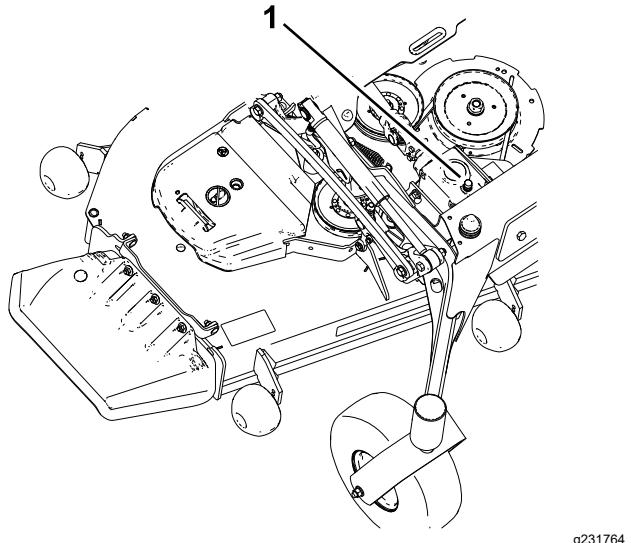

Figure 56
5. Remove the dipstick/fill plug from the top of the gearbox and ensure that the lubricant is between the marks on the dipstick (Figure 56).